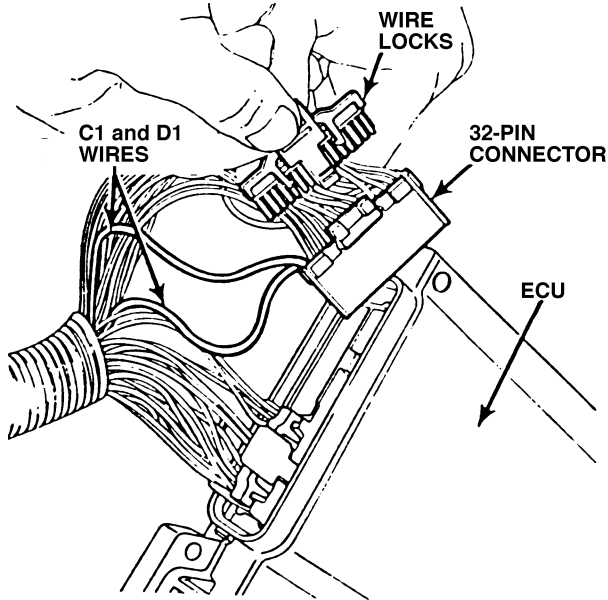

Figure 7.
19. From inside the vehicle, disconnect the 32-pin connector from the ECM, and remove the two wire locks from the connector (Figure 7).
24. Install the wire locks into their original positions in the 32-pin connector, and reconnect the 32-pin connector to the ECU, figure 7. Make sure both ECM connectors are fully engaged.